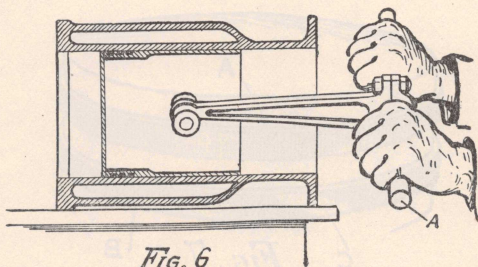

FIG. 6
Dismount your cylinder and lay it on a bench with the bottom facing you. See Fig. 6. If the cylinder has a removable head, take it off. Clamp the cylinder to the bench, or if it is small, it sometimes may be held in a vise.
Next fit a piece of wood, (A) Fig. 6, into the crank pin end of the connecting rod as shown, to use as a handle, and clamp in place.
Secure your cylinder to the bench as shown in Figs. 6 and 11, or in a vise as previously suggested; then smear the cylinder walls with an even coating of **Grade (A) Clover Grinding Compound**, or **Grade (1-A)** for close work.